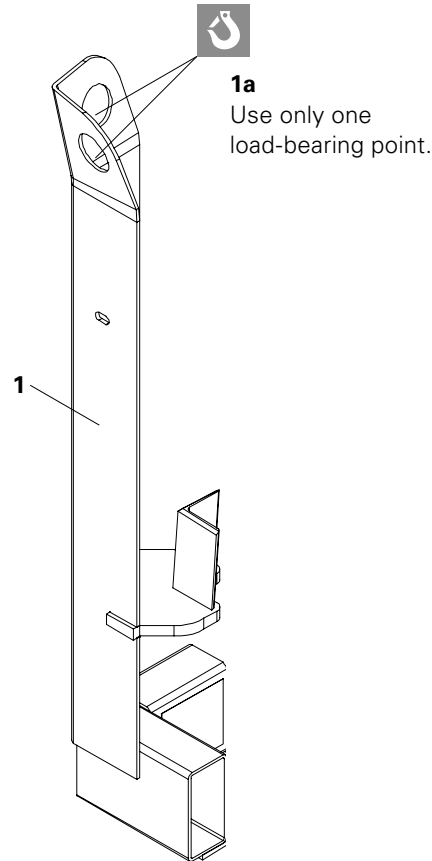

Fig. A1.01
(Fig. A1.01)
1. Attach load hook (11a) to the load-bearing point (1a) of the stacking device – 4x. (Fig. A1.01 + A1.03)